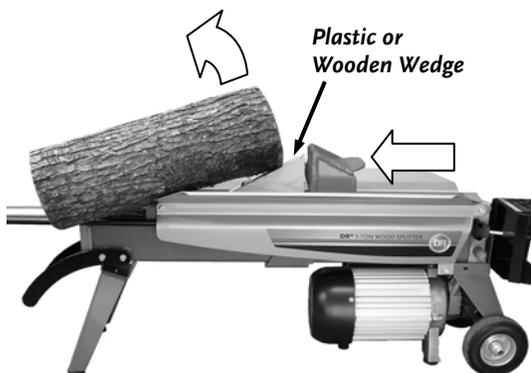

Figure 12
2. Insert a plastic or wooden wedge under the jammed log (**Figure 12**) and activate the Ram to push the wedge under the jammed log.